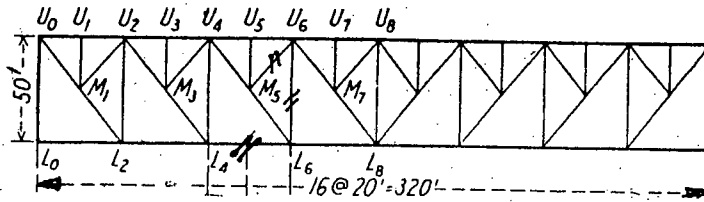

Fig. 6
6. Draw influence line for members L_4L_6 , M_5V_6 , V_6L_6 of the truss shown in Fig. 6 (21)